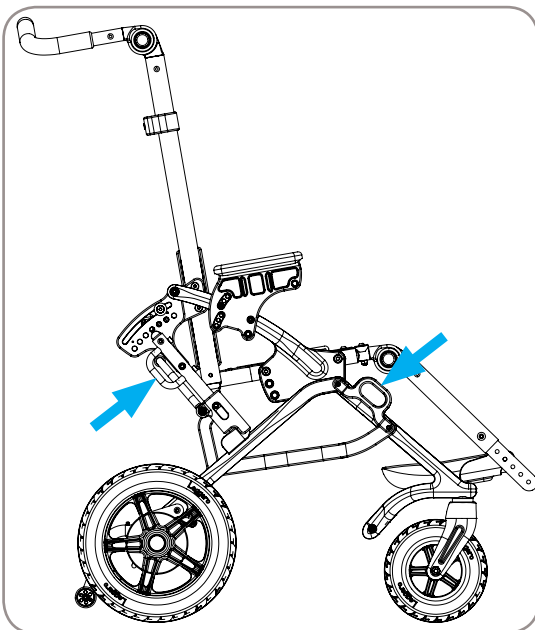

Figure 31
- For approved transit tie-down locations and location of belt/harness attachment pin, see Figures 31 and 32.